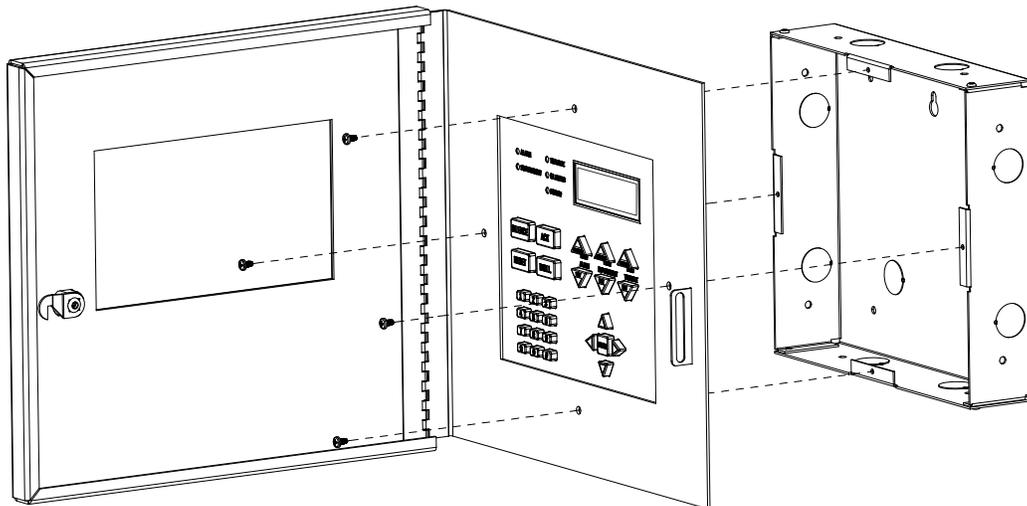

Figure 4.13 Attaching Annunciator/Door Assembly to Backbox
- Attach the door assembly to the backbox using the screws provided. Refer to Figure 4.13.